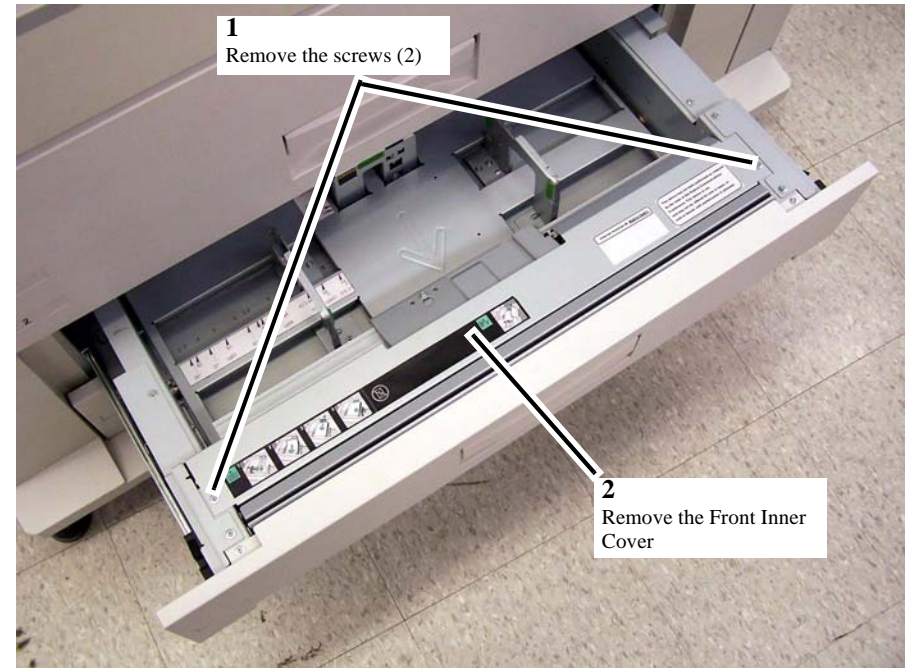

Figure 2 Removing the Front Inner Cover
5. Remove the Front Inner Cover (Figure 2).